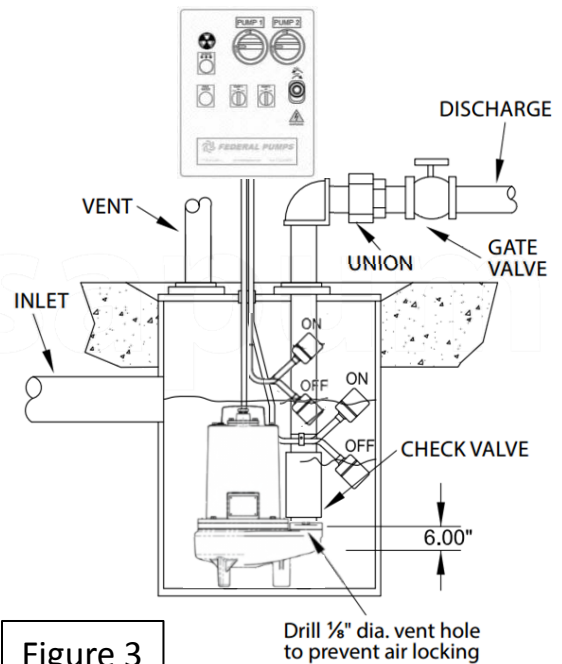

Figure 3
Refer to the figure 3 which shows a typical installation of (2) 1 phase 230 volt and 3 Phase pump at all voltage using (2) level control and (1) high water alarm float mounted to the discharge piping with a duplex control panel. The level control and high water alarm float should have adequate clearance so they cannot hang up in their swing and that the pump is completely submerged when the level controls are in the "OFF" mode. By adjusting the cord tether the control levels can be changed.